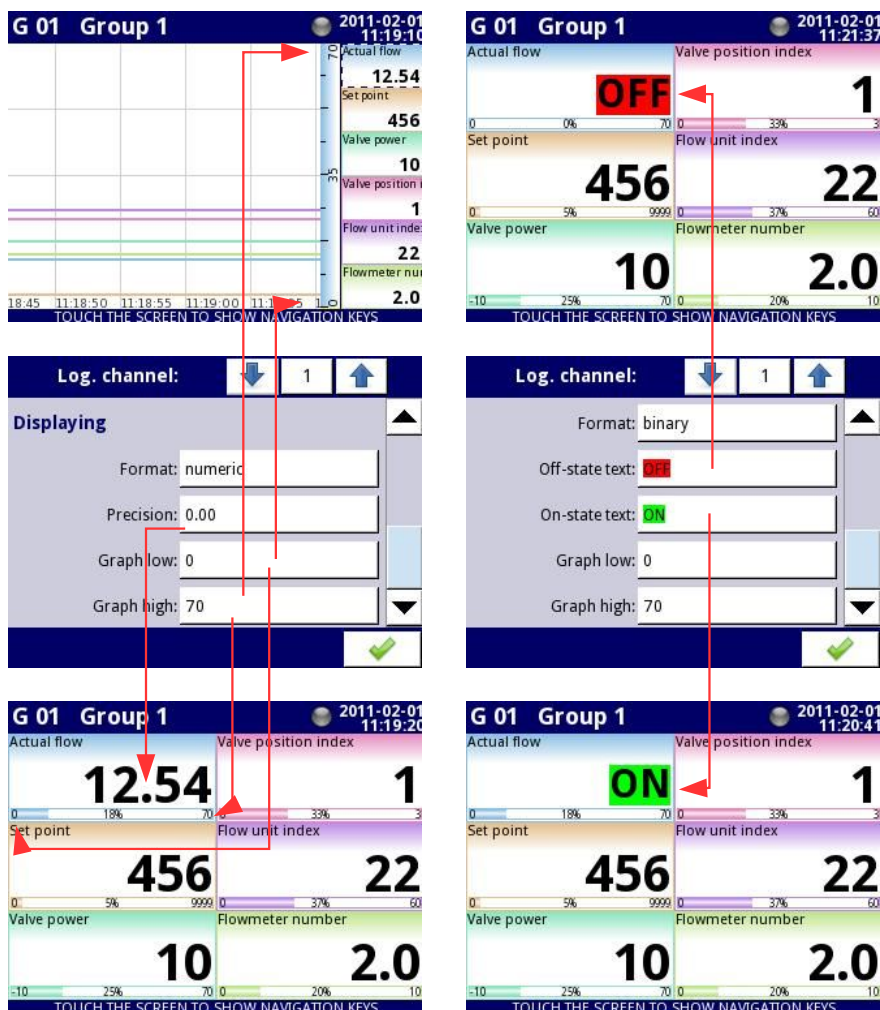

Fig. 7.44. Input channels menu – 2 different kinds of Displaying parameters
- **Precision** – this parameter occurs when the **Format** parameter is set as **numeric** or **time**, which specifies the precision to be displayed on the output value (see **Fig. 7.44**),
- **Graph low** – the minimum range value for graphs, bars, needle dials and percentage bars (see Fig. 7.44),
- **Graph high** – the maximum range value for graphs, bars, needle dials and percentage bars (see Fig. 7.44),